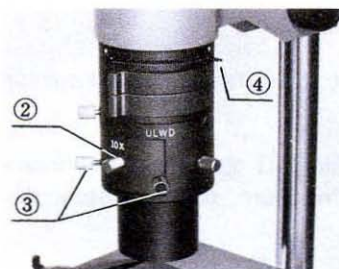

Fig. 8
NOTE: It is suggested to stop down the field iris diaphragm ④ for easier focusing. (Fig. 8)
2. In case of ultra long working distance illumination, the field iris diaphragm ④ in Fig. 8 is used as aperture diaphragm.